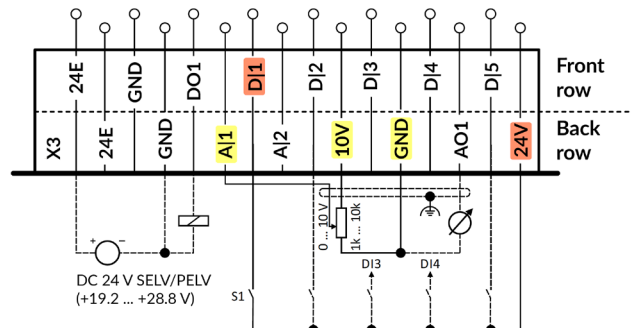

Figure 3: wiring potentiometer to the i550 inverter terminal strip
1. Connect the potentiometer wires to the i550 inverter terminal strip as shown in table and Figure 3.